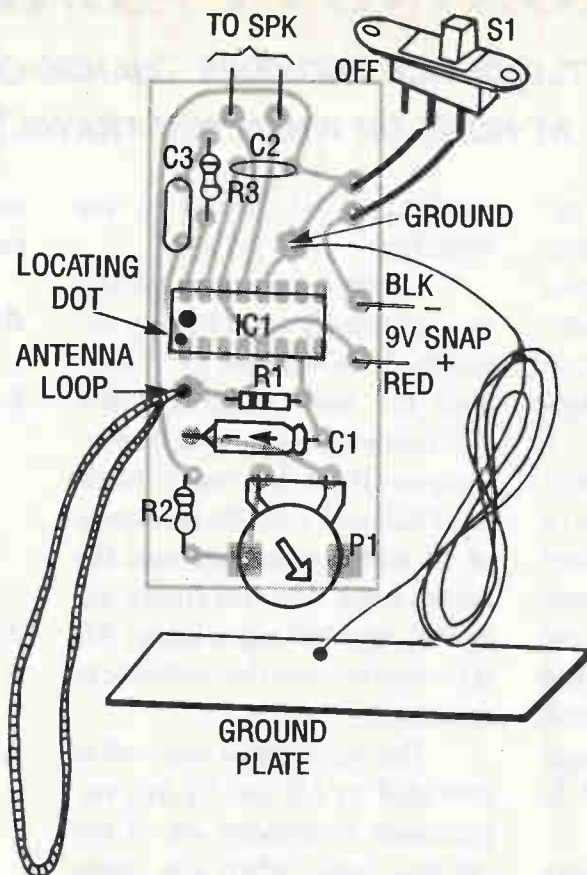

Figure 2. Parts Layout. Use a three-foot-long piece of insulated wire to connect the ground plate, and a wire no longer than nine inches for the antenna loop.
1. Assemble the Proximity Alarm according to the parts-placement diagram (Figure 2) and the schematic. Make sure that you use only 60/40 rosin-core solder.